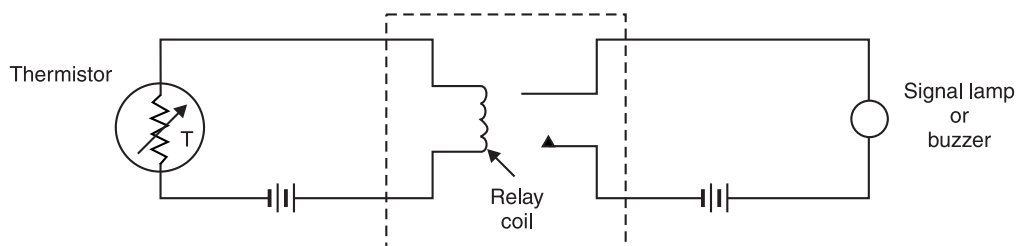

Fig. 1.29
- (b) A thermistor with a negative temperature coefficient can be used to issue an alarm for excessive temperature of winding of motors, transformers and generators [See Fig. 1.29].